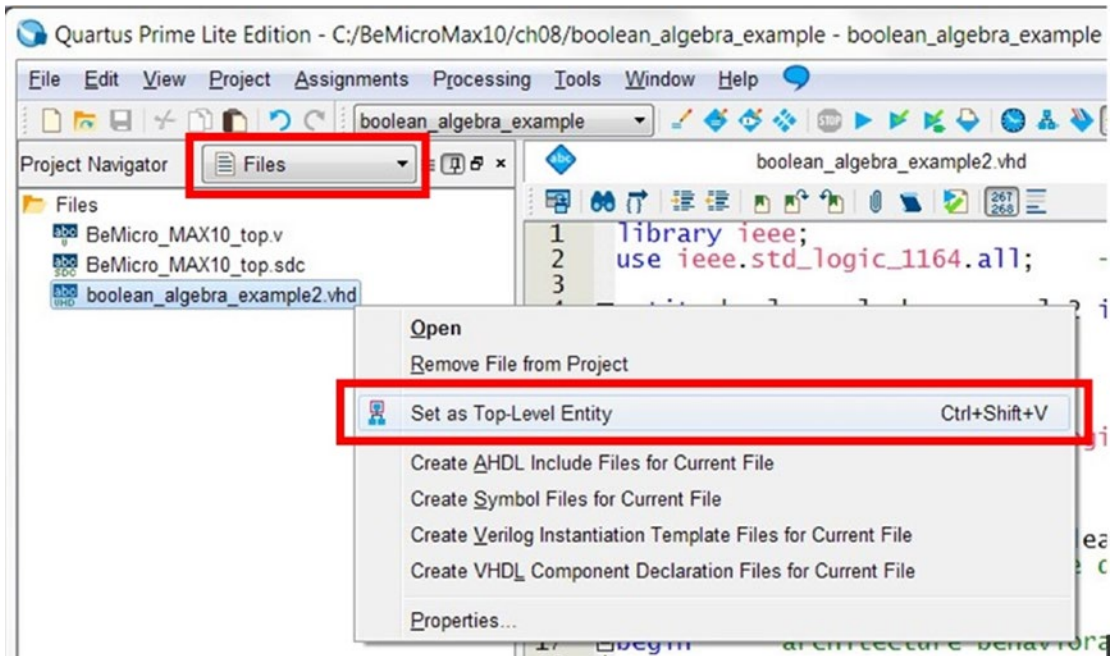

Figure 8-6. Set boolean_algebra_example2.vhd as Top-Level Entity
5. In Project Navigator, select **Files**. Right-click the file `boolean_algebra_example.vhd` and click **Set as Top-Level Entity** (Figure 8-6).